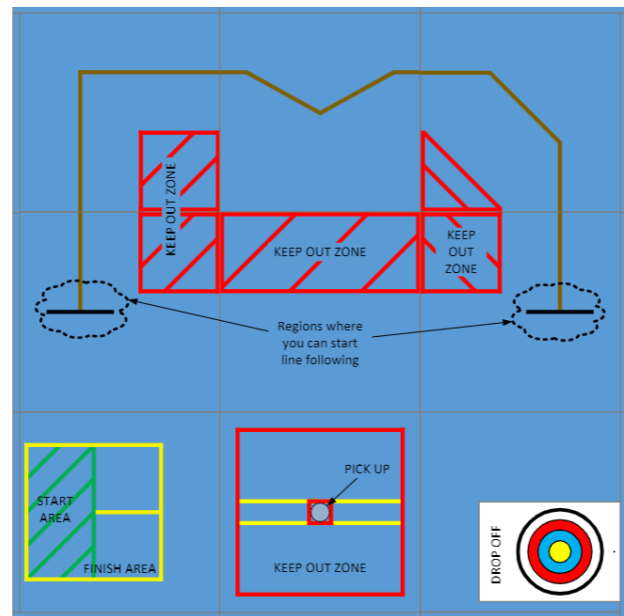

Figure 1: Large Warehouse Layout
We used a function called *sonicDrive()*; to drive straight using an ultrasonic sensor and a p controller to a specified distance in mm away from the obstacle. It contains four inputs and initialises the power as an integer with a value. It also initialised error as an integer to equalise the motors and finally the variable *u* as an integer which is the output of the p controller. Sets a value of range as distance away from an obstacle and drives straight until it detects an object in front of it. Uses the *drivestraight()*; function until it's at the desired distance away from the obstacle. (See appendix A figure1 for flowchart)
We have a loop while black is not detected and the light sensors are checked. Now it checks to see if brown is detected, if it is then checks to see if the left is greater than the right, if not will check if black is detected and if it will end the loop. After seeing left greater than right, it then checks to see if black is detected or the mid sensor is larger and if this is not true will turn the robot and check sensors, however if left is not greater than right then it checks if right is greater than the left. If right is greater than left it does the same process as before checking to see if the mid sensor is larger or if black is detected and if not will turn the robot and check sensors. Finally if right is not greater than black, it will check to see if black is detected or the if the middle sensor is not brown, if it's not then it will check the sensor and set the motor power, if so then it will loop back to the start checking to see if brown is detected and if not will exit the loop, turning b the motors off. (See appendix B figure 1 for zoomed flowchart)
Appendix A Figure 1. *sonicDrive()*; function flowchart : drive straight using an ultrasonic sensor and a p controller to a specified distance in mm away from the obstacle
Appendix B Figure 1. *linefollow()*; function flowchart : allows the robot to continue moving along the brown line and stop when it senses the colours black. (Zoomed version)
- Figure1 : Large Warehouse Layout